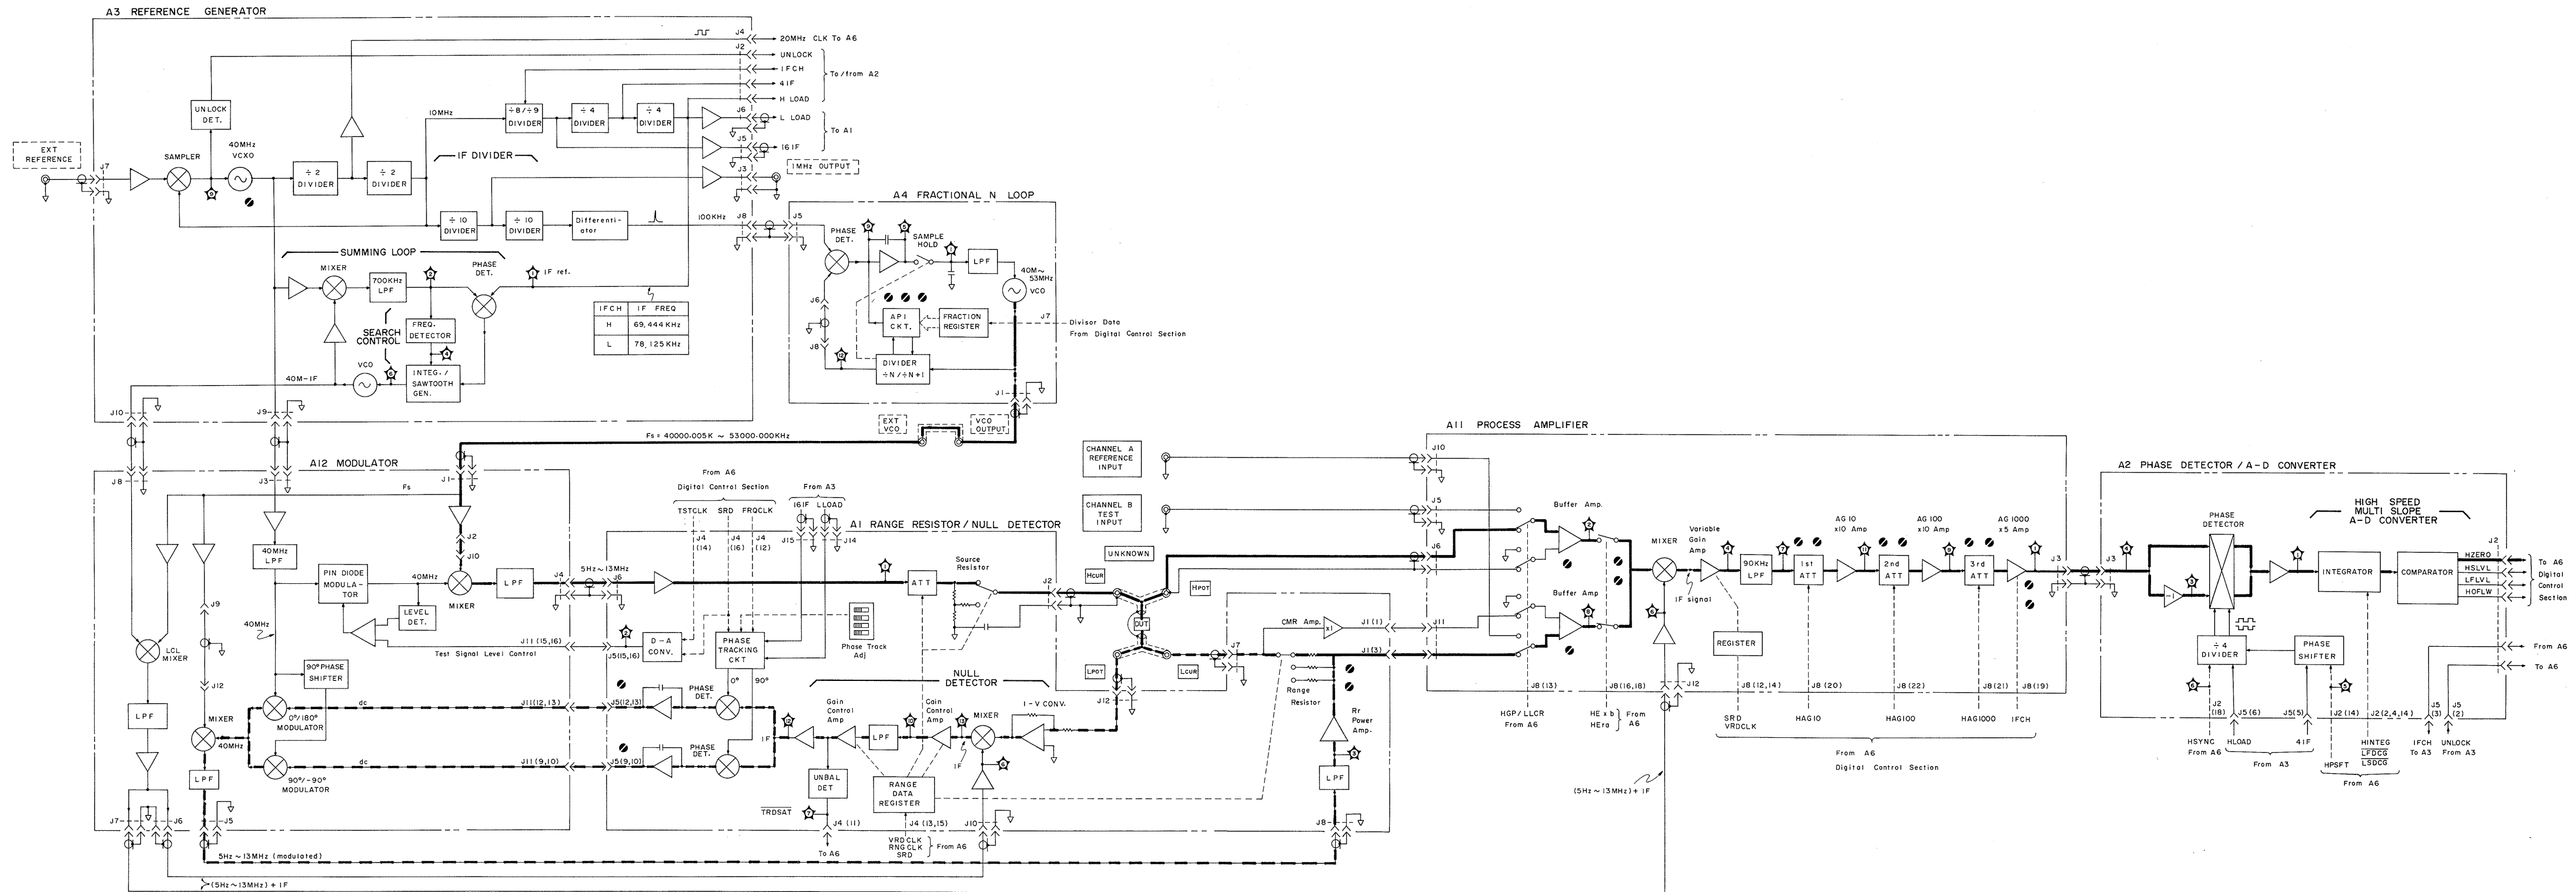

Figure 8-22. Analog Measurement Section Block Diagram.
8-36. The measurement circuit of the 4192A is conceptually divided into three subsections: (1) the signal source, composed of the A3 Reference Frequency Generator and the A4 Fractional N Loop; (2) the auto-balance bridge, composed of the A1 Range Resistor/Null Detector and the A12 Modulator; and (3) the vector ratio detector composed of the A2 Phase Detector/A-D Converter and All Process Amplifier. The block diagram of the 4192A measurement circuit is shown in Figure 8-22. For simplicity, the block diagram is drawn for function and signal flow and does not, therefore, show complete details. The bold lines in the block diagram show the main test signal flow and the dashed lines show the balance control loop of the bridge circuit.
8-53. The switch circuit at the input stage of the process amplifier changes the measurement circuit for either impedance parameter measurements or amplitude-phase measurements. When making an amplitude-phase measurement, all of these switches are set to opposite positions from those shown in the block diagram (Figure 8-22). Then, the process amplifier accepts the inputs for CHANNEL A and CHANNEL B to be measured in place of the signals obtained from the bridge circuit. In B-A